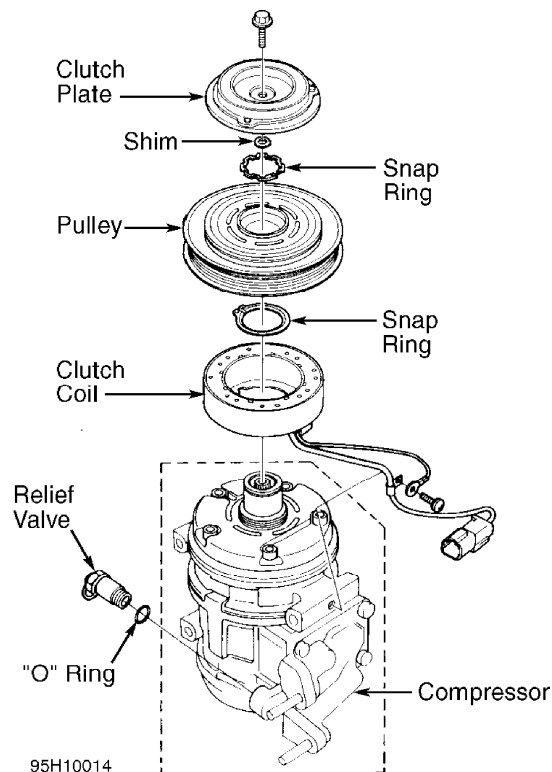

Fig. 2: Nippondenso 10-Cyl. Compressor (Pickup, 4Runner & Supra)
3) Remove snap ring, bearing, and seal (if equipped) from pulley. See Fig. 2. Remove screw for clutch coil lead. Remove snap ring and clutch coil.